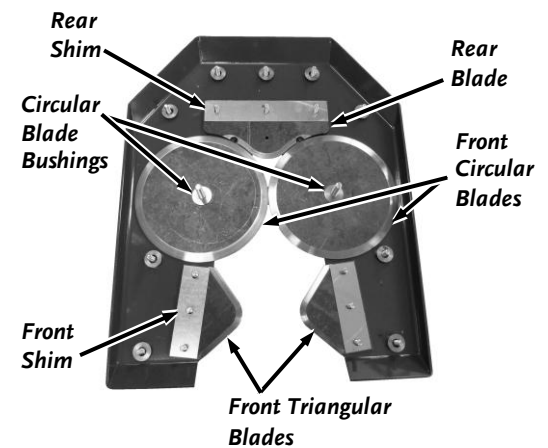

Figure 21
6. Remove the front and rear Shims (**Figure 21**).